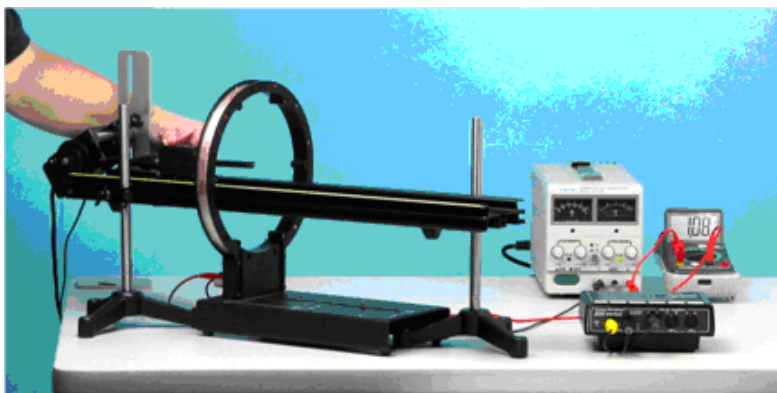

Figure 5: Single Coil Setup
1. Attach a single coil to the Helmholtz Base. Connect the DC power supply across the coil, i.e. between the two white jacks (NOT across the coil's internal resistor of 1.2 k Ω). To measure the current through the coil, connect the ammeter in series with the power supply and the coil. See Figure 5. The current should not exceed 2A.